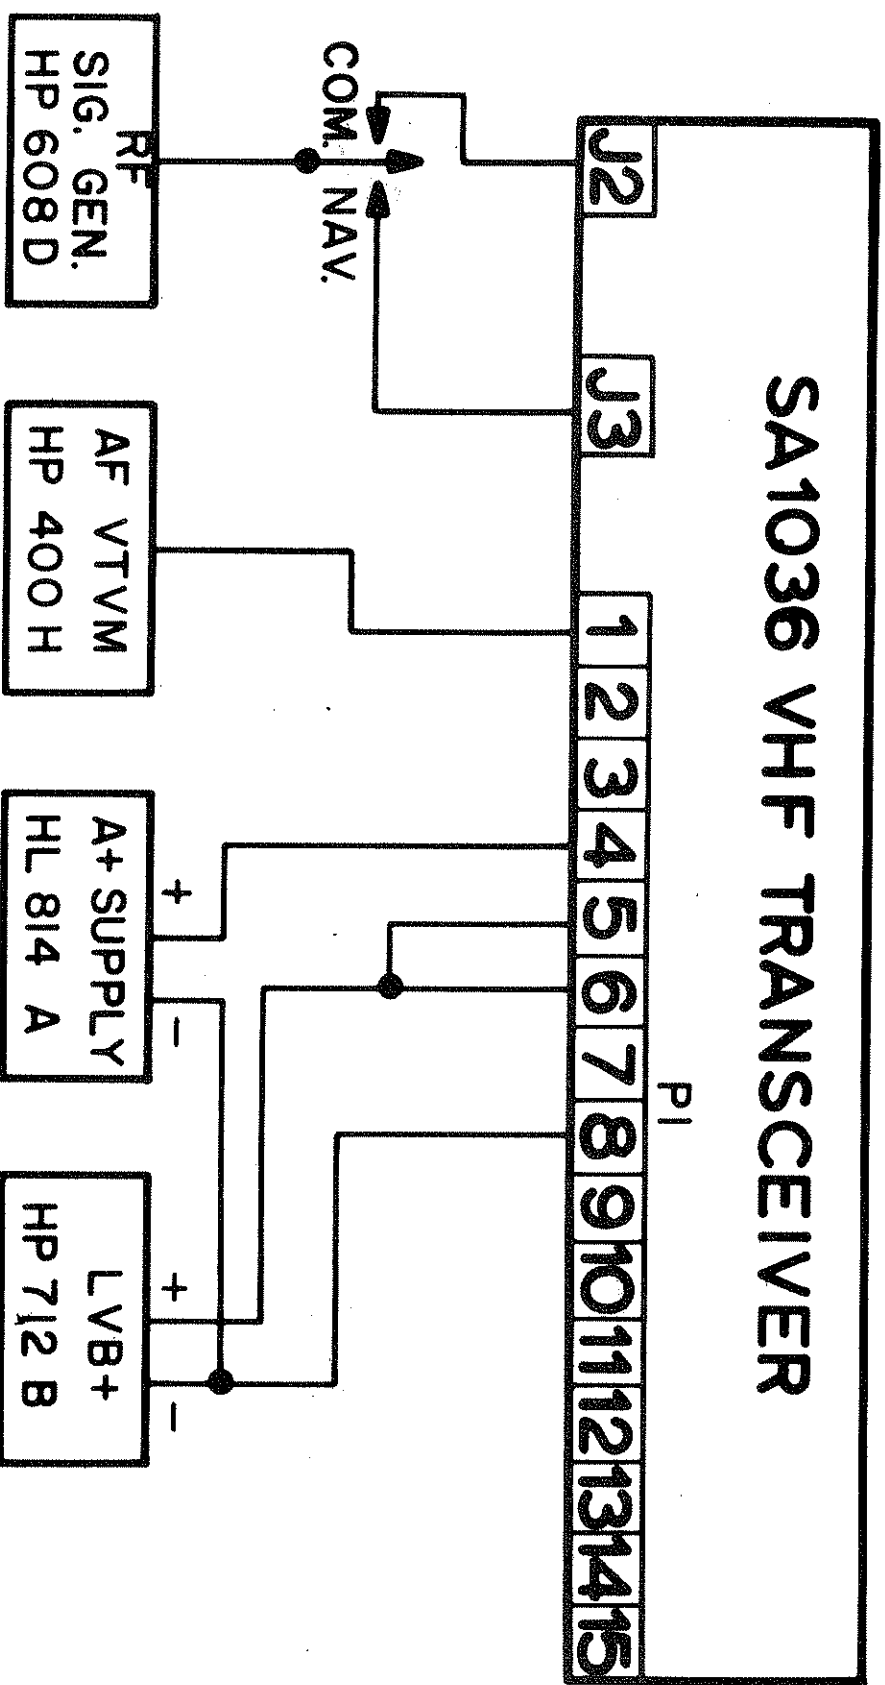

FIG. 3.1 TEST SET OPERATION
Connect equipment as shown in Fig. 3.1 and allow 10 minutes warmup time. A+ supply set at 13.75 VDC or 27.5 VDC and low B+ set at 250 VDC.
3.4.7 32 MC I.F. Amp. (Com.) (Refer to Fig. 3.1)